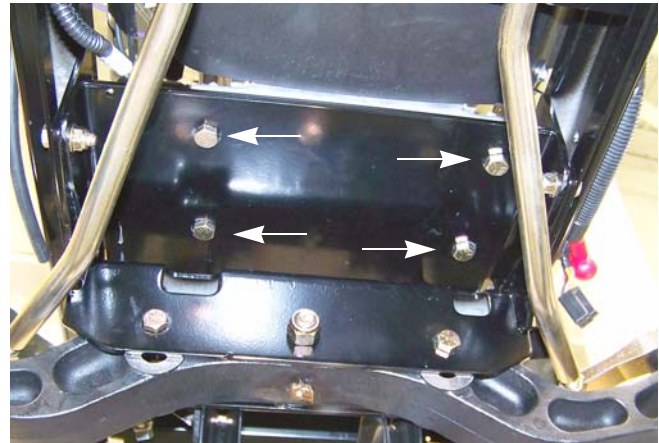

Figure 2.24
12. Remove the four nuts and bolts, indicated by the arrows in Figure 2.24, that hold the engine to the sub frame using a pair of 9/16" wrenches.